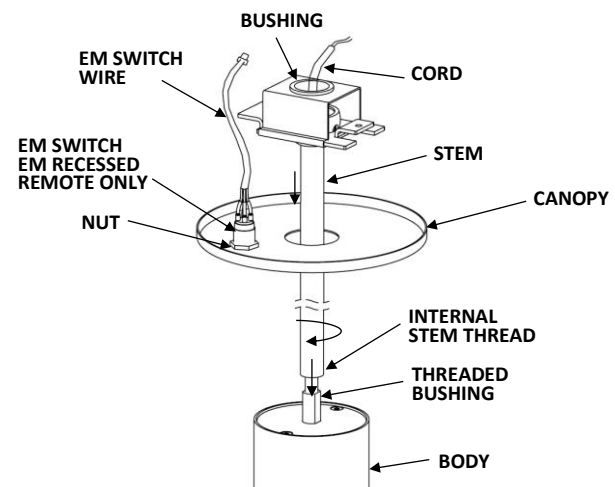

Fig. 6
4. **INSTALL STEM TO BODY. Fig. 6**